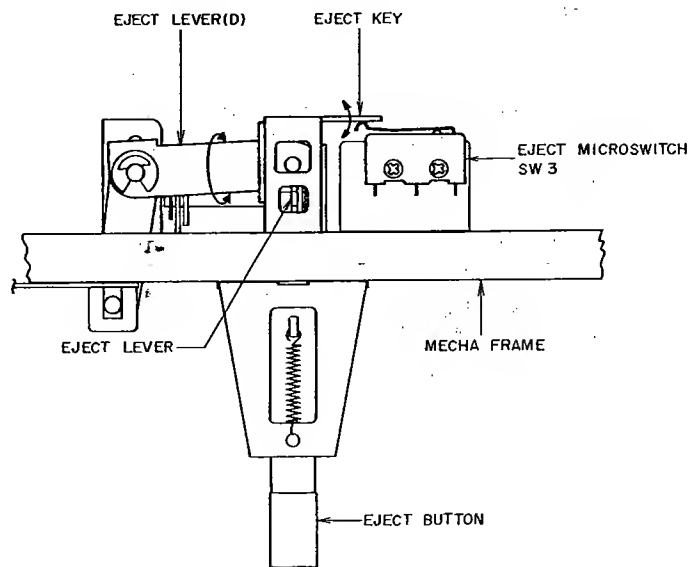

Fig. 9
6. ADJUSTMENT OF EJECT MICRO SWITCH ACTUATING POSITION (Refer to Fig. 9)
Adjust by bending Eject Key so that when the Eject Key is depressed, Eject Micro Switch (SW3) shown in Fig. 9 is perfectly actuated.